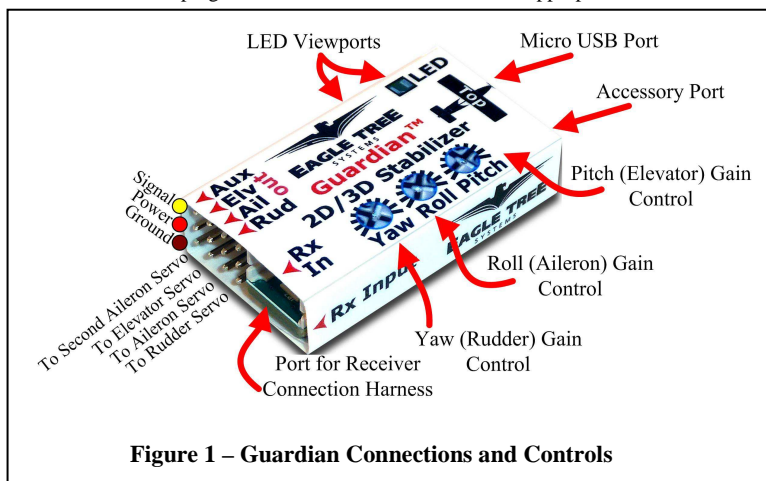

Figure 1 – Guardian Connections and Controls
Please refer to Figure 1. The Guardian has the following physical connections and controls:
- Servo Connection Ports – connect the appropriate servos to the Guardian here, noting the plug orientation in Figure 1. Please see the *Wing Hookup Configurations* section below for more information.